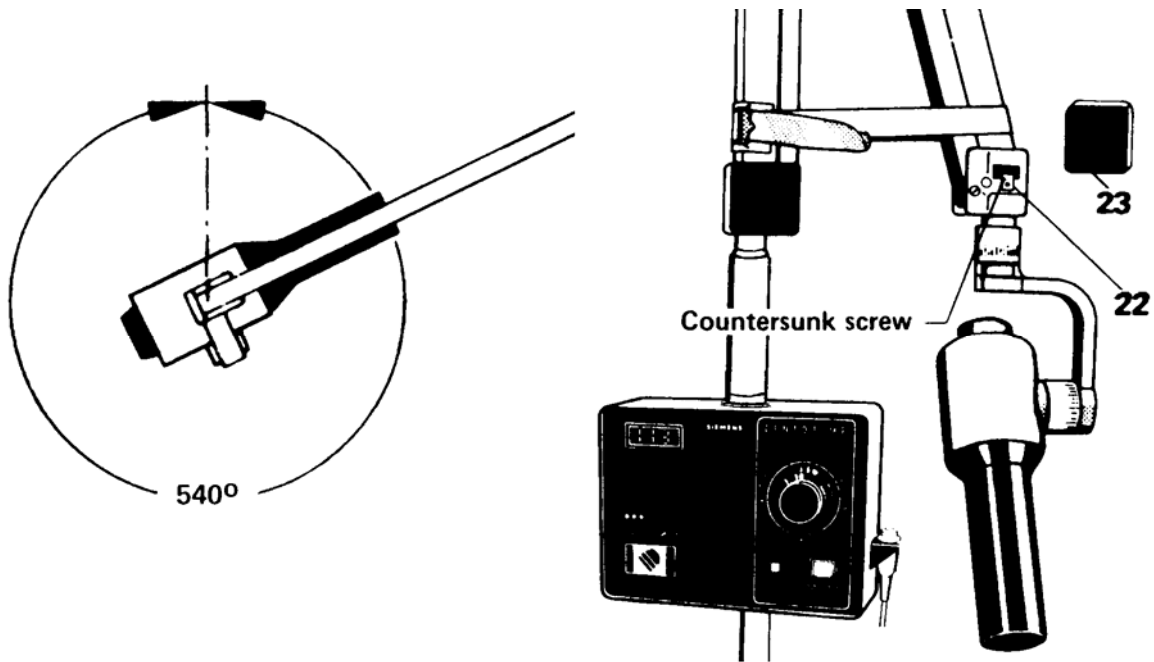

Figure 4-11. X-ray head reassembly, part one.
c. **Reassemble Parts in Reverse Sequence.** Refer to figure 4-11.